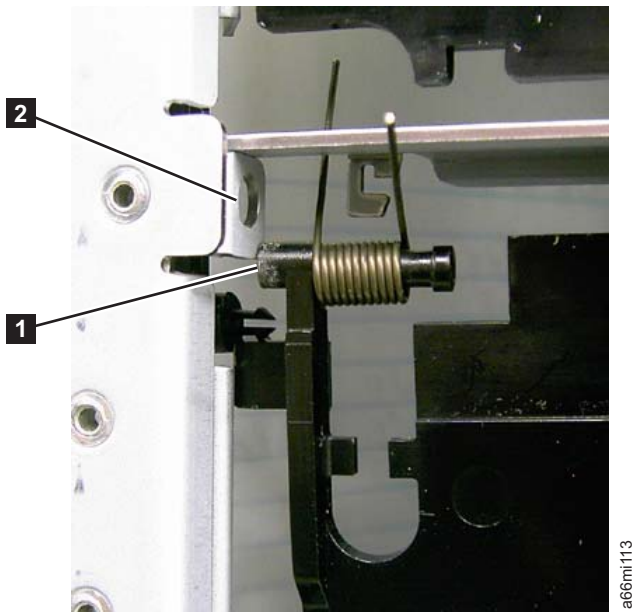

Figure 8-32. I/O Safety Flap Pivot Pin, Removed
6. Move the bottom flap to the right to remove the pivot pin (**1** in Figure 8-32) from the pivot hole (**1** in Figure 8-32). The bottom flap can now be removed from the library.